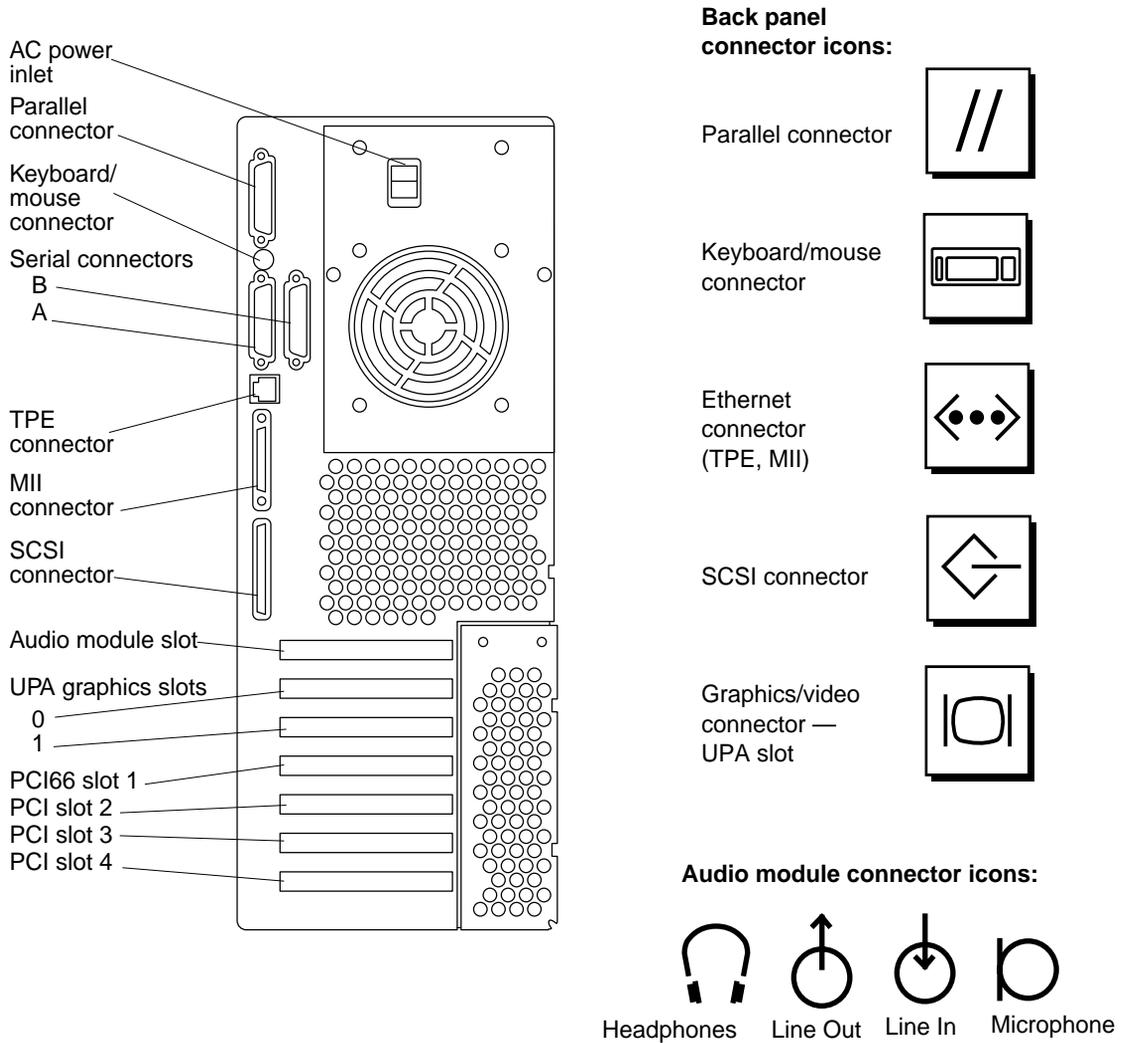

FIGURE 1-1 Back Panel Switches and Connectors
- FIGURE 1-1 Back Panel Switches and Connectors 1-2
FIGURE 1-1 shows the locations of Ultra 60 system back panel switches and connectors.